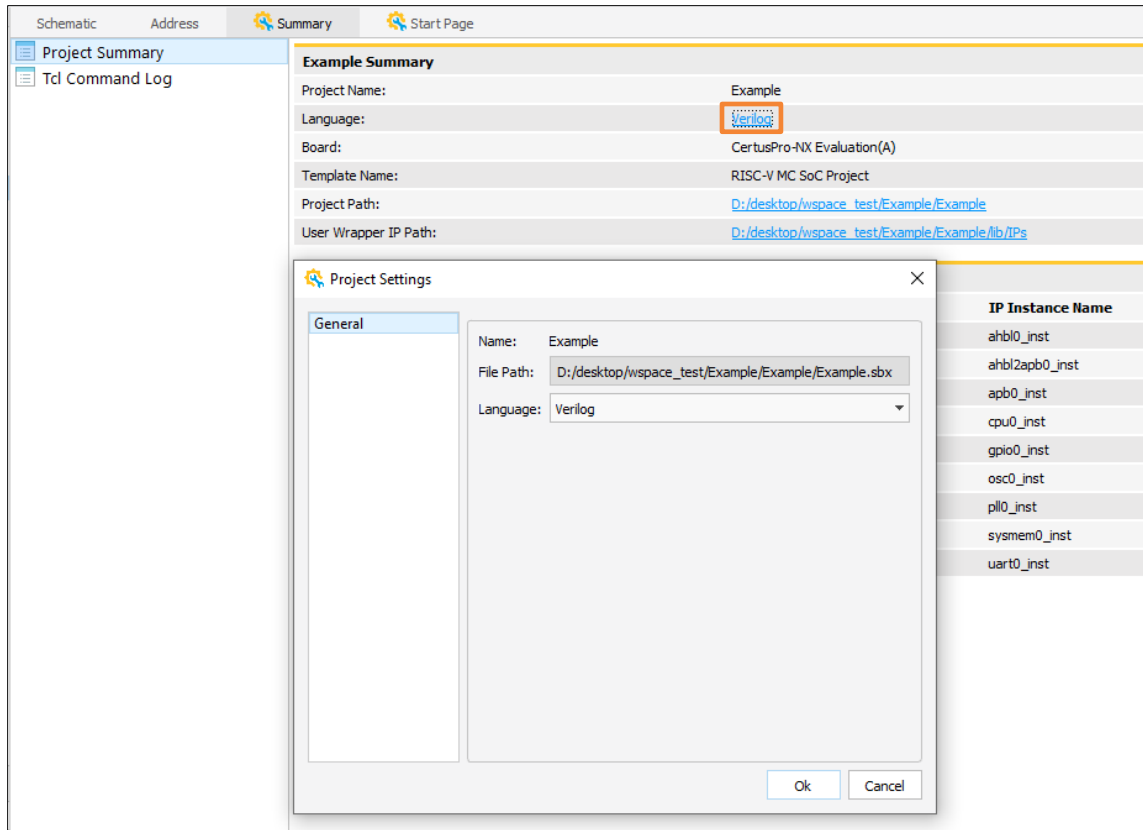

Figure 2.13. SoC Project Summary – Language
- Click the **Language** link in **Summary** (Figure 2.13) to change the project setting for language.